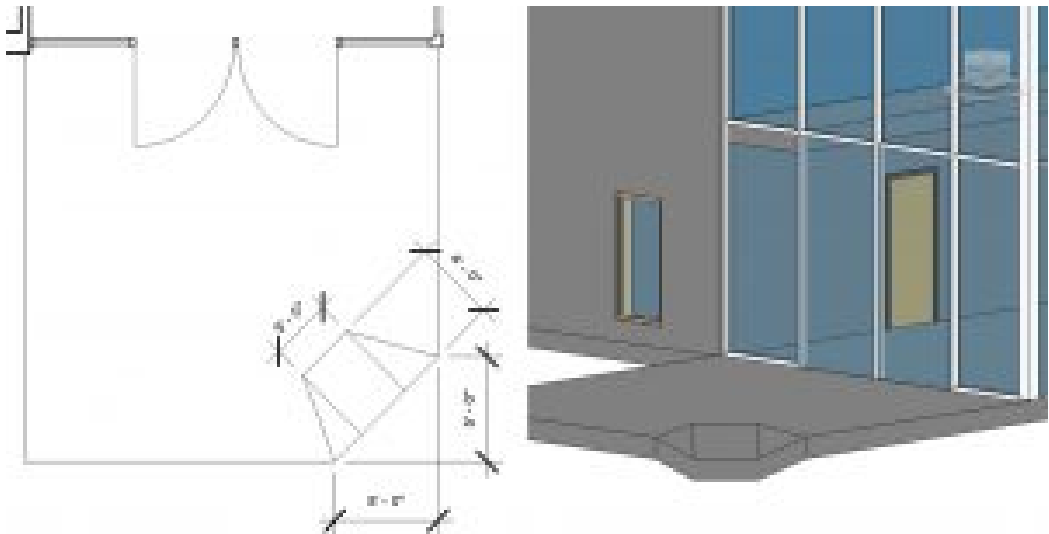

Figure 3.13 Split line slope shown in plan view and 3D view
4. Use the Line tool  and Trim tool  to cut off a 5ft X 5ft corner from the slab as shown in Figure 3.13
9. Add split lines as shown in Figure 3.13